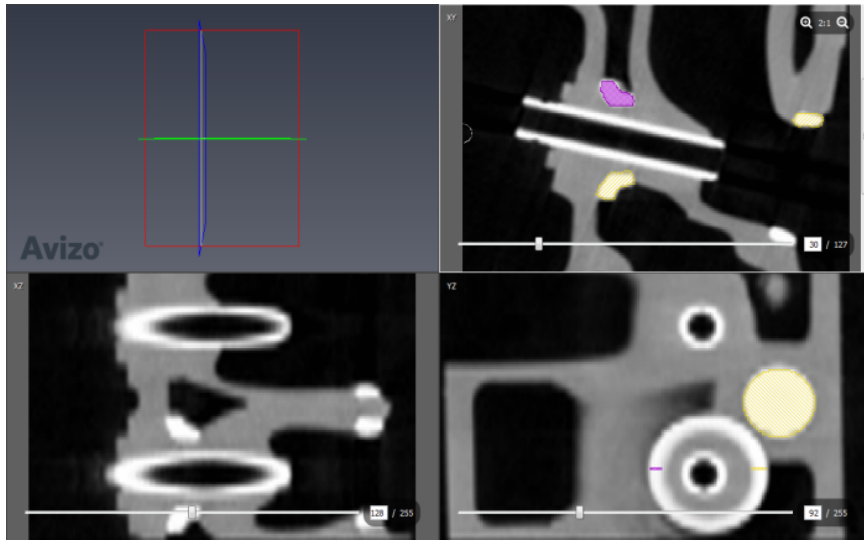

Figure 3.39: Selecting Two Structures by Using One Slice
- Mark a second structure using the brush, select the new material in the *Materials* list, and assign the pixels to that structure (see Figure 3.39).